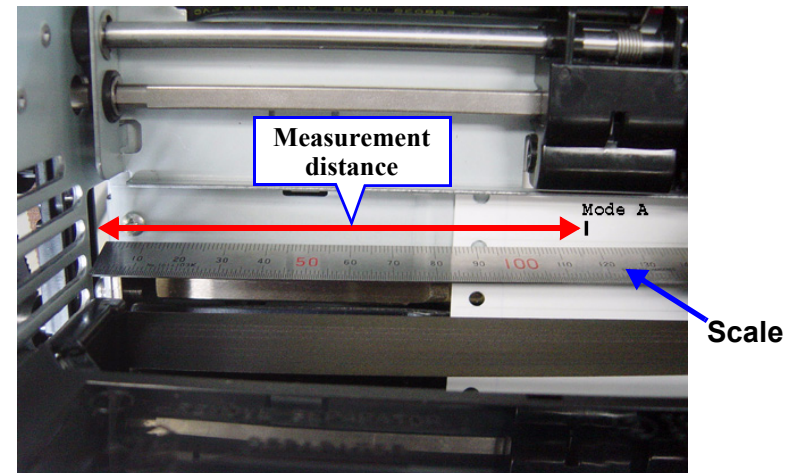

Figure 5-35. Measurement point
4. Refer to Figure 5-35, and measure the distance between the printed left line and the left frame. Check whether the distance matches the specification: 116.8 mm ± 0.5 mm.